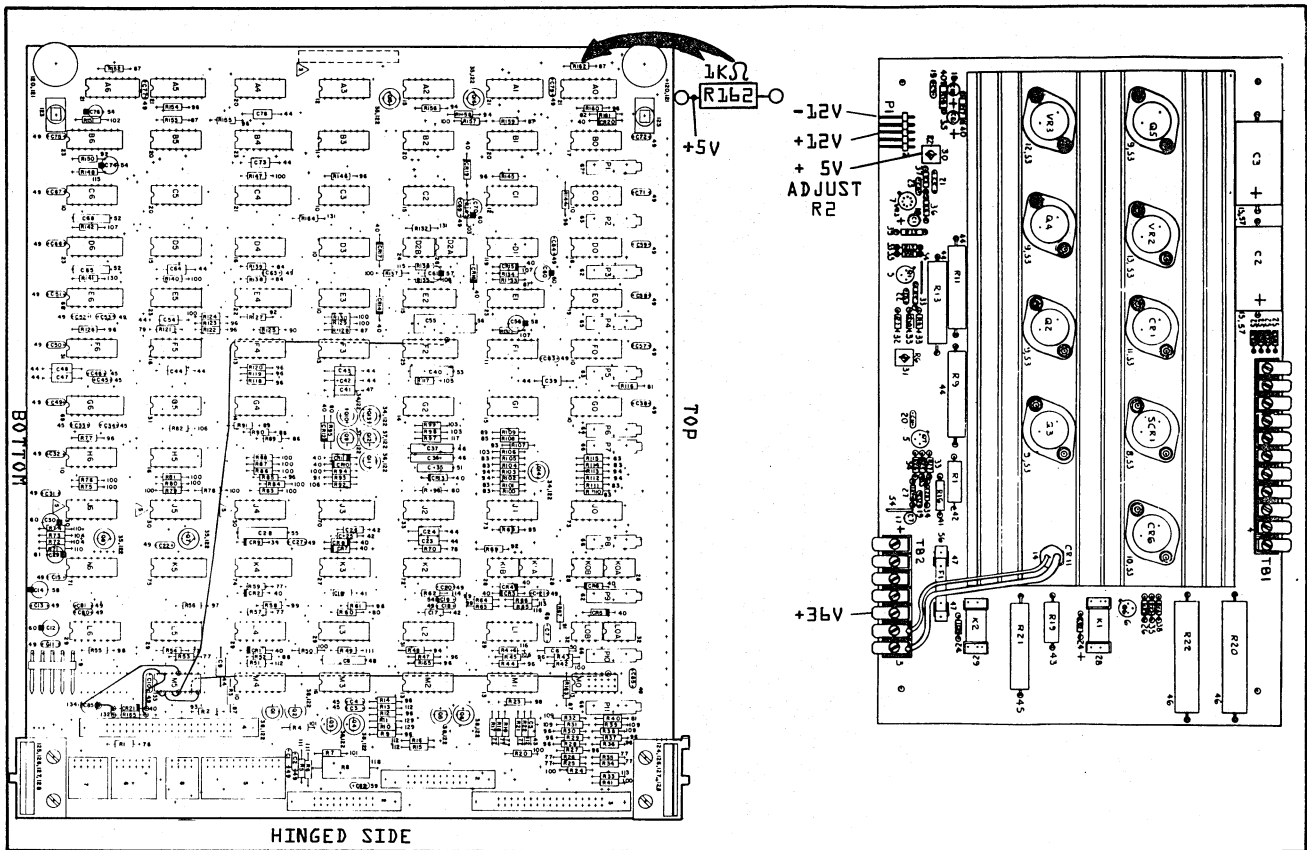

FIGURE 2-8. D. C. VOLTAGE LOCATOR
5. Using a digital volt meter, check the power supply output voltages from the power supply board but do not adjust the +5 volts at this time (see Figure 2-8). Voltages out of tolerance with the exception of the +5 volts which is adjustable may require a fault isolation check of the power supply board. The +5 volts is adjusted later after warmup.
11. Go back to step 5 and check the +5 volts again. If the +5 volts is not to specification adjust the potentiometer, R2, (See Figure 2-8) to achieve the proper voltage. There is no adjustment for the ± 12 volts and the +36 volts. If these voltages do not meet specification, either the circuit board must be replaced, repaired, or the a. c. input is not wired correctly.